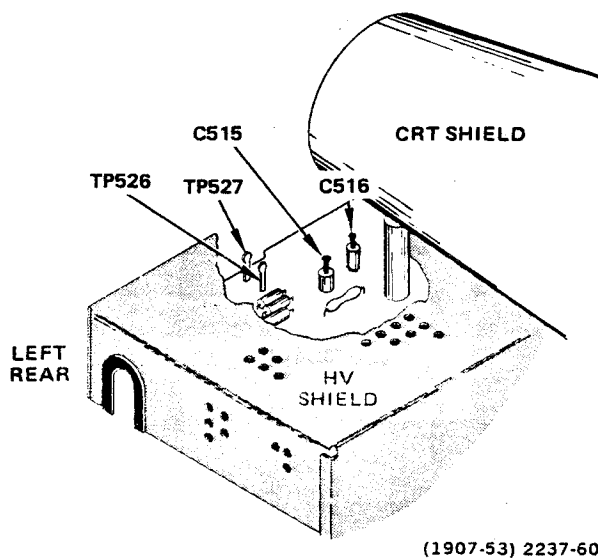

Figure 5-17. Crt and Z-Axis test point and adjustment locations.
c. Crt Bias (Figures 5-17 and 5-18).
- (1) Set A AND B TIME/DIV to X-Y.
- (2) Connect a digital voltmeter between TP526 and GND.
- (3) Set INTEN for about +20 volts (within 0.5 volt) voltage reading.
- (4) Disconnect the voltmeter.
(5) Adjust FOCUS and ASTIG for a well defined spot (if spot is not visible, adjust CRT BIAS, R532 until it is; then adjust FOCUS and ASTIG).
- (6) Adjust CRT BIAS, R532 until the spot is just visible.
d. Z-Axis Compensation (Figure 5-17).